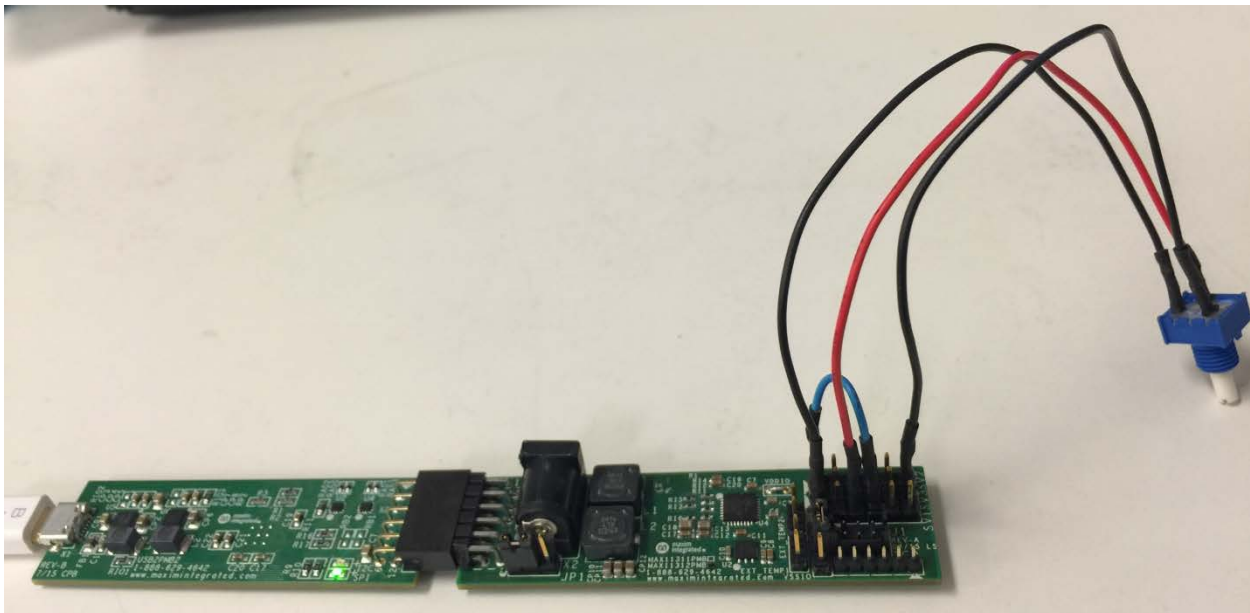

Figure 31. A potentiometer is connected to ports 0, 2, and GND.
2. Connect a potentiometer cable assembly to Port 0 (black jumper wire), Port 2 (red jumper wire), and GND (black jumper wire). Connect Port 3 to Port 6 (blue jumper wire) as shown in **Figure 31**.